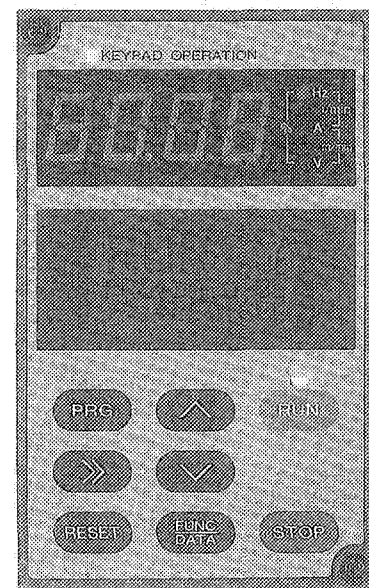

Fig. 7-1-2 Keypad panel display when power supply is turned on
- ⑤ Turn all switches off before turning on the power to make sure that the inverter doesn't start up or operate incorrectly when the power is turned on.
- ⑥ Check the following after turning on the power supply:
- (b) Does the keypad panel appear as shown in Fig. 7-1-2 (with no abnormality being indicated)?